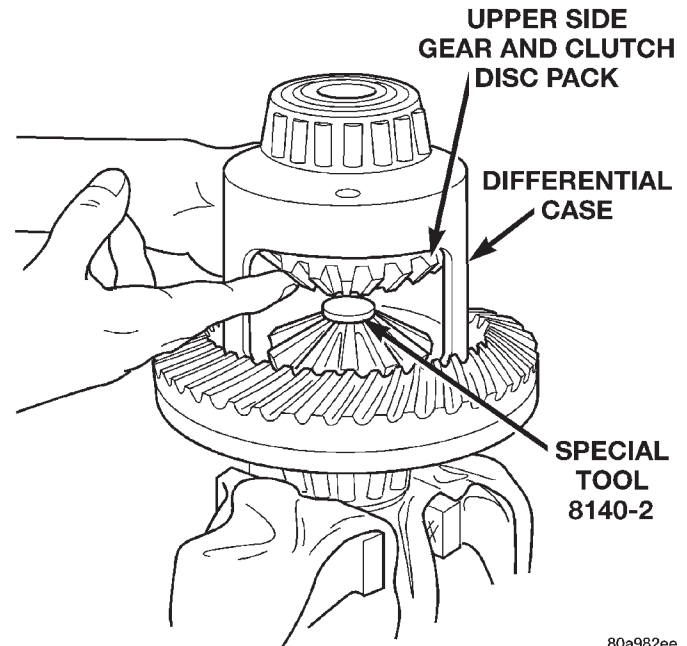

Fig. 53 Upper Side Gear & Clutch Disc Pack Installation
(4) Position the differential case on Side Gear Holding Tool 8138.
(5) Install lubricated Step Plate 8140-2 in lower side gear (Fig. 53).
(6) Install the upper side gear and clutch disc pack (Fig. 53).
(7) Hold assembly in position. Insert Threaded Adapter 8140-1 into top side gear.
(8) Insert Forcing Screw 6960-4.
(9) Tighten forcing screw tool to slightly compress clutch discs.